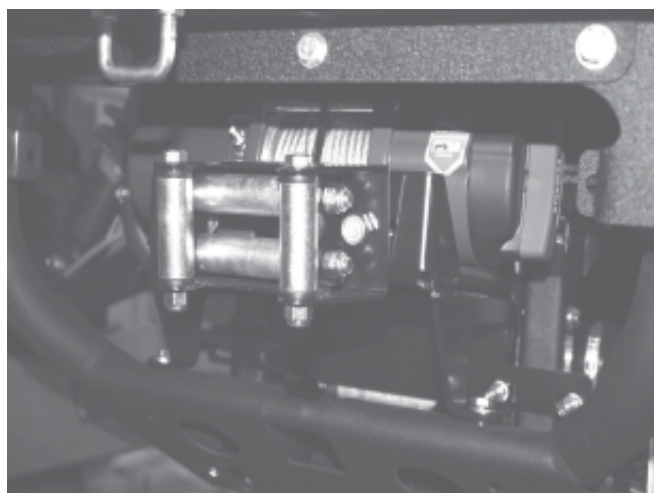

Figure 8
- Place the winch into position on the mounting plate and attach with the hardware that came with the winch, as shown in figure 8. Use 4 M8 x 20mm hex capscrews and 4 lock washers. After securing the winch run the cable through the fairlead window and attach the hook to the end of the cable.